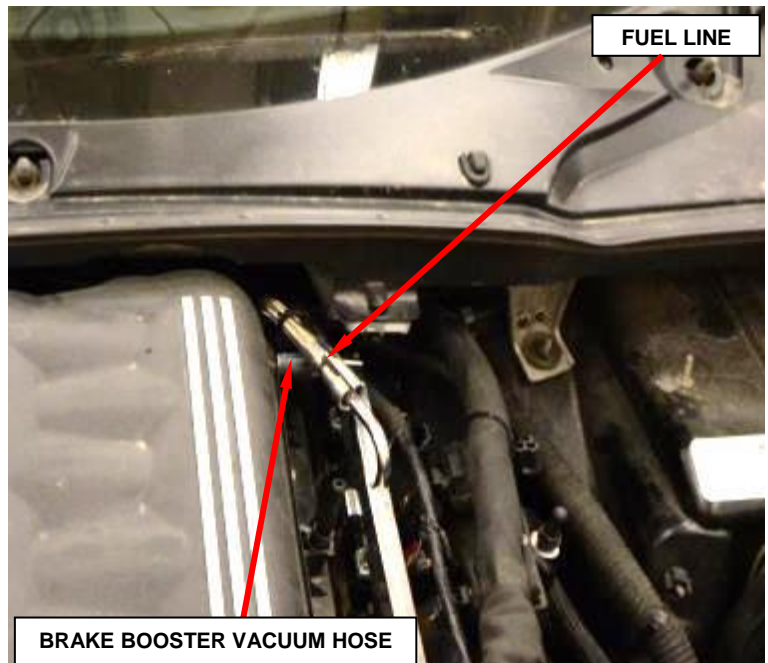

Figure 32 – Fuel Line
39. Disconnect the fuel line (Figure 32).
40. Disconnect the brake booster vacuum supply hose at the intake manifold (Figure 32).